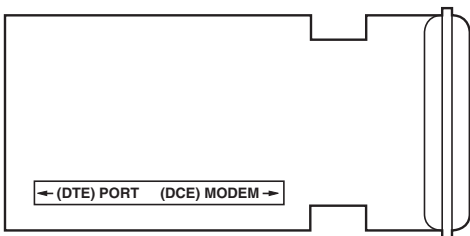

Fig. 3-2. RS-530 DTE, RS-232 DCE.
3. Turn the socket around and replace it so that the DCE faces the RS-232 connector and the DTE faces the RS-530 device (see Figure 3-2). Make sure the pins are aligned with the socket.